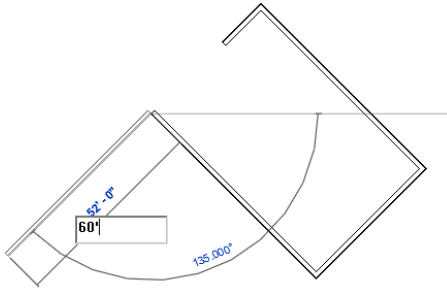

Figure 3-47 Sketching the fifth inclined wall segment
8. Similarly, create the fifth inclined wall segment of **60'(18288 mm)** length, as shown in Figure 3-47.